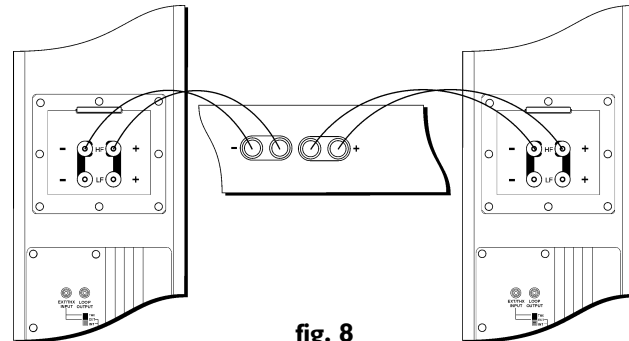

fig. 8
- **INT** does not require a separate line level connection to the MS502. In this mode the user can connect the MS502 as a conventional speaker by using a set of normal speaker leads. The subwoofer derives its input signal internally and thus does not need a separate input. This mode is used with either a stereo or Pro-Logic receiver (wiring configuration shown in fig. 8 below). The volume control should initially be set to 'INT REF' position, and then adjusted by ear for best sound balance.